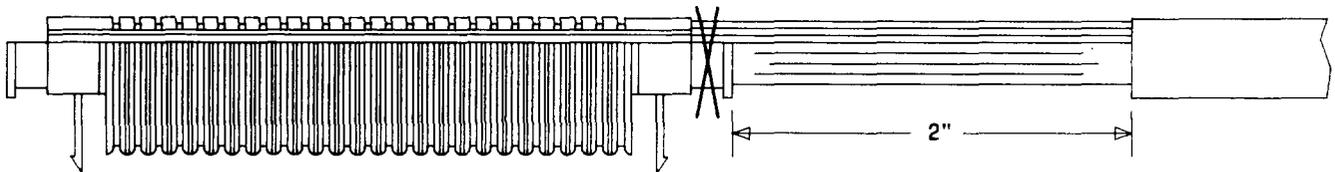

Fig. 16—J40 and J44 Right-Handed Connectors
5.09 Each backplane has two connectors, J40 and J44, which are fed from the right side. They may be treated in the same way as the left handed connectors, as shown in Fig. 16.